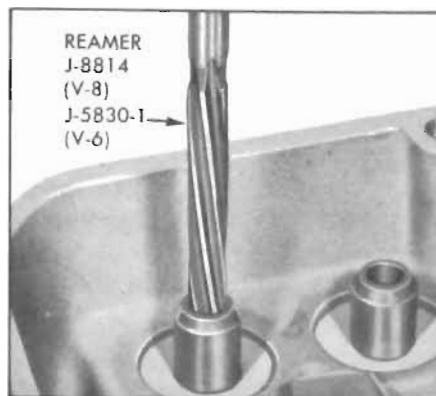

Figure 2-20—Reaming Valve Guide
8. If a V-6 valve stem has excessive clearance in its guide, the guide must be reamed .004" oversize, using Reamer J-5830-1. See Figure 2-20. .004 oversize valves are available through the Parts Department.